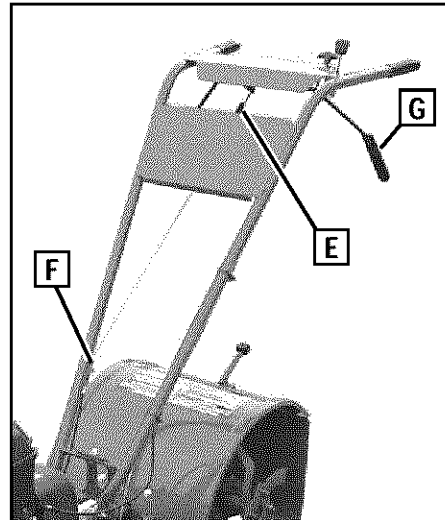
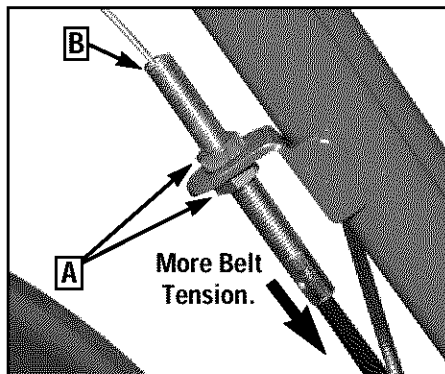

Figure 5-10: Location of forward clutch cable spring (E) and forward cable adjuster (F).
Figure 5-12: Move forward clutch cable adjuster down for more belt tension.
2. The coiled part of the forward clutch spring (E, Figure 5-10) measures 2" in length when the Forward Clutch Control levers (G) are not pulled up. Pull either Forward Clutch Control Lever up against the handlebar and measure the length of the extended coil. Tension is correct if the length of the extended coil is 2-1/2" (see Figure 5-11).
2. Belt adjustments are done with the forward clutch cable adjuster (F, Figure 5-10). Use two 1/2", open-end wrenches to loosen the two jam nuts (A, Figure 5-12) a few turns.
3. Move cable adjuster (B, Figure 5-12) downward for more belt tension.